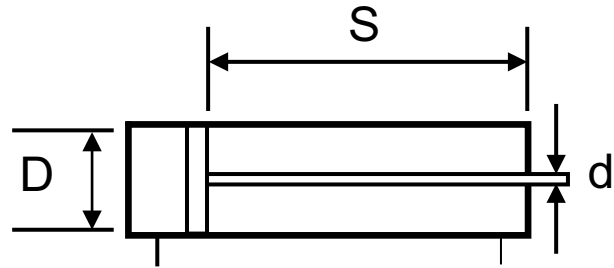

Fig. 10
- (iv) With reference to the data in **Fig. 10** calculate the air consumption on the negative stroke in cm^3 for the cylinder shown. Show your working out clearly. Assume $\pi = 3.14$. [3 marks]